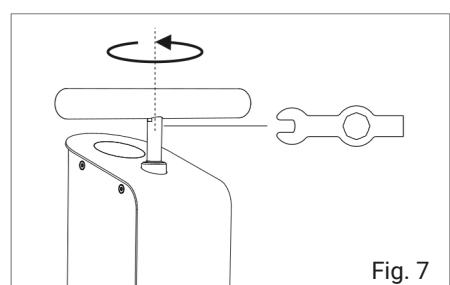

Fig. 7
- 1 To replace the complete manometer (31) or protective glass (33), you need the Veyhl Tool (1) and the manometer or protective glass spare parts set. First unscrew the pump handle (15). There are two notches for this directly under the handle on the bolt of the air pump. Hold the bolt with the Veyhl tool and unscrew the handle with your free hand (Fig. 7).
12 Finally, screw the pump handle back onto the bolt of the air pump. To do this, hold the bolt with the Veyhl tool and tighten the handle with your free hand (Fig. 7).